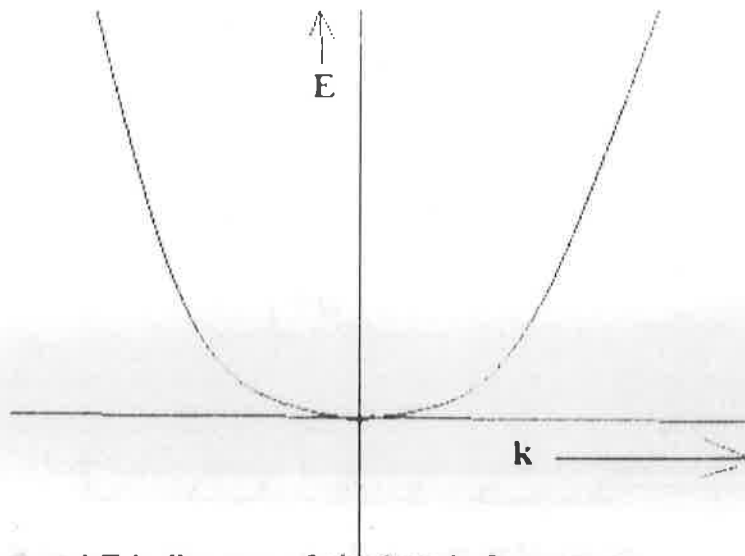

Figure 1. E-k diagram of electron in free space.
- i. E-k diagram is given in Figure 1.